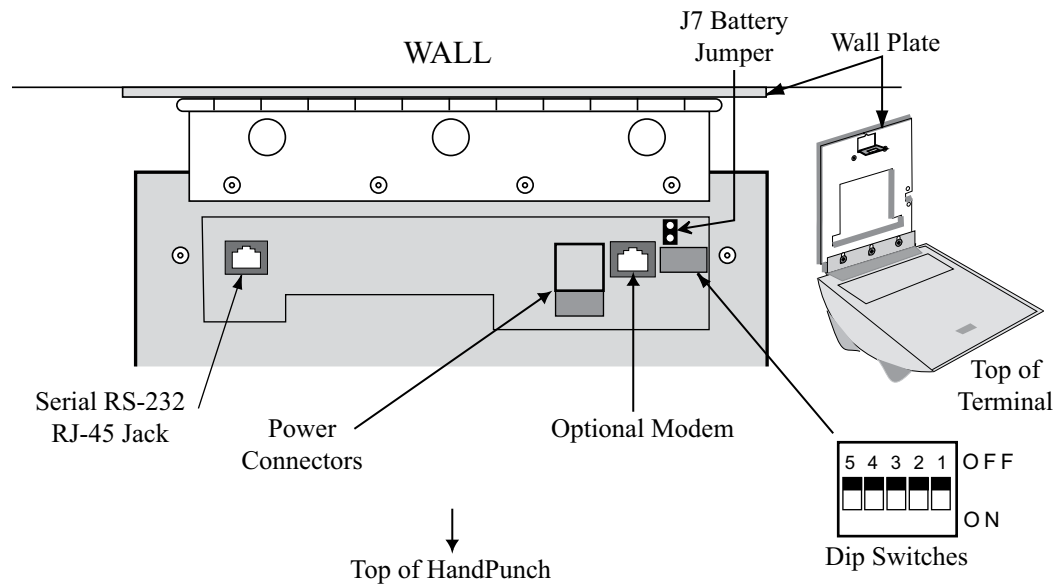

Figure 12-4: Wiring Connections and Dip Switches
Once the HandPunch is attached to the wall plate the wiring connections to the HandPunch can be made (see Figure 12-4).
**NOTE** *If the HandPunch is equipped with the battery backup option, remove shunt J7 in front of the DIP switch array (see Figure 12-4 on page 50) before proceeding. Replace shunt J7 after completion of the following steps.*